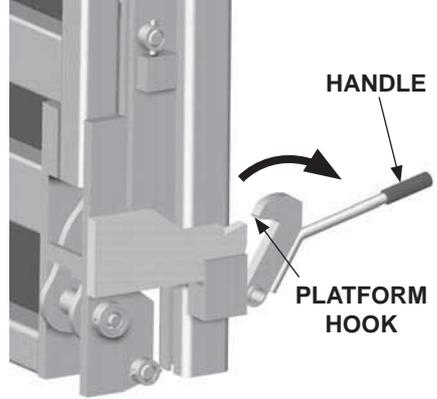

FIG. 15-1
3. Use handle to unhook platform (FIG. 15-1). Continue with step 4 to unfold platform.